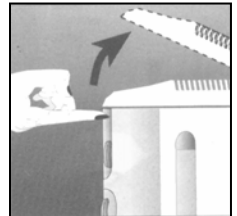

Fig. 12
- Release the lid (#12) by pressing on the lid opening latch (#10) Fig. 12, then wait to allow steam to escape before opening the lid completely.